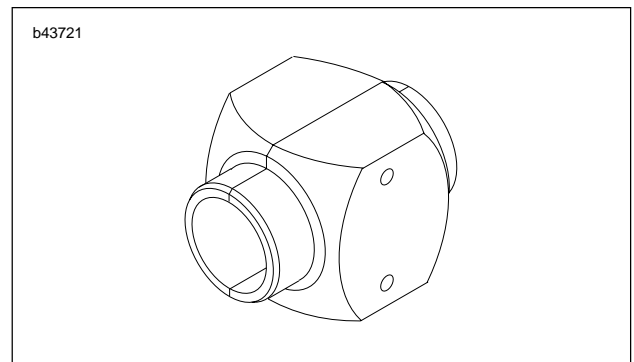

Figure 2-69. Fork Seal Driver (B-43721)
7. See Figure 2-66. Drive the guide bushing (22) with the seal spacer (23) and oil seal (24) into position in the outer tube using a FORK SEAL DRIVER (Part No. B-43721). See Figure 2-69.
8. Install the oil seal stopper ring (25) and a **new** dust seal (26).